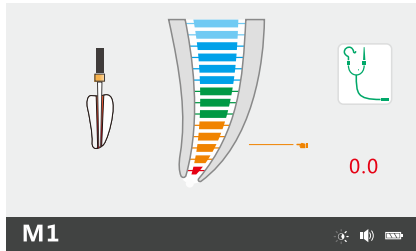

Fig.22 Apex Area-Red
- When the file tip reaches the apical foramen the indication dot is marked red and a constant sound is emitted (Fig. 22)